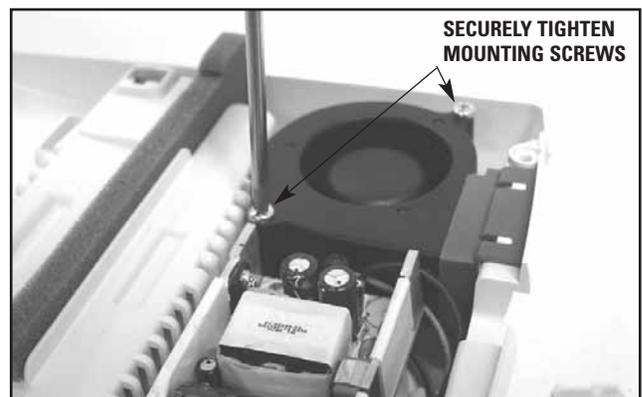

FIGURE 6.8
5. Secure fan to housing with the 2 mounting screws. See Figure 6.8.